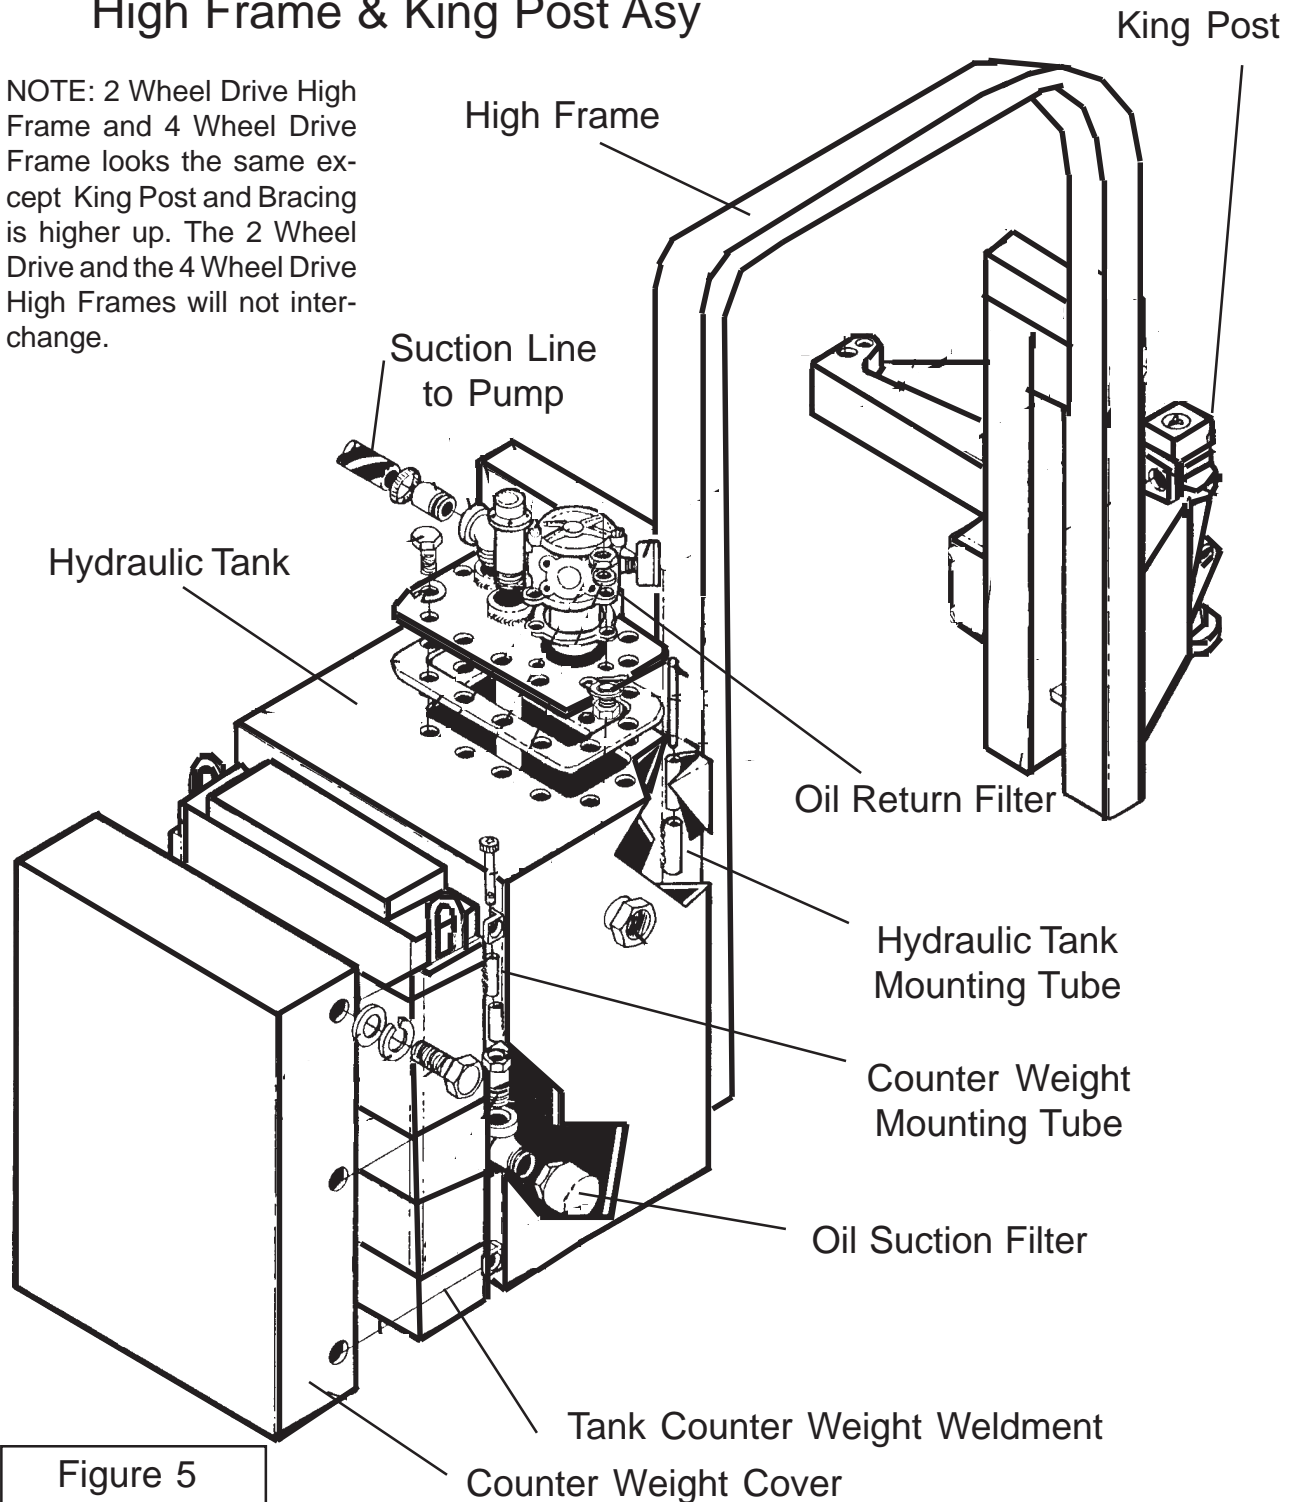

Figure 5
4. Driveshaft Assembly. The drive shaft is a two piece Assembly, an inner and outer shaft assembly (**See Figure 5**). The Shaft End has a four bolt flange yokes on it that connect to the Crankshaft Pulley Adapter. The Tube end has a splined clamp yoke on it that connects to the Pump. This Drive Shaft connects to the Pulley Adapter. Note that the Universals of the Driveshaft are in time. When installed in tractor they should be in time as shown, both Yokes the same.
2. Driveline timing means the universal joints are both the same position when driveline half is slid together. If they are not timed, it will decrease the life of the universal joint and in some cases could cause a vibration. (**See Figure 5 on previous page**)
3. Install Tube End of Driveshaft / Pump End. Slide the Tube half of driveshaft through Pump Mount Plate and Tractor Crankshaft Access Hole (**See Figure 8**). You will have to align the Universals when doing this (time the Driveshaft). Slide the two together where the Universal are in time (**See Figure 5 on previous page**), this will help the driveshaft to operate smoothly.
High Frame and King Post Frame Sub-Assembly. (See Figure 5) The High frame will come with the King Post Sub-Assembly built to it. The 2 Wheel drive and 4 Wheel Drive High frames are different and will not interchange between 2 WD and 4 WD Tractors, the 4 Wheel drive High Frame has the King Post Mounting welded higher up on frame than 2 WD Frame. DO NOT try to use a 2 Wheel drive Frame on 4 Wheel Drive Tractor or vice versa, it will not work.